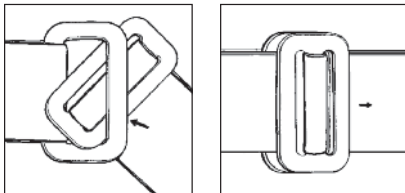

Figure 9 Attaching a Quick
STEP 5 (figure 5F) Attach the chest strap by inserting the tab of the buckle into receptor of quick connect buckle (figure 9). Chest strap should be six inches down